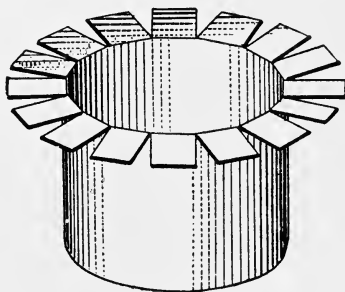

Fig. 10
**Supplemental Guides for Stocks.**—The guides for all makes of stocks are sufficiently loose to easily slip over any weight of pipe, whether galvanized, plain or tar coated. Hence, when cutting standard pipe, particularly if the pipe is slightly under size, the guide is so loose that the resulting play usually produces a slightly crooked thread. This can be prevented by making supplemental guides of different weights of tin, as shown in Fig. 10, to take up the play between the regular stock guide and the pipe.